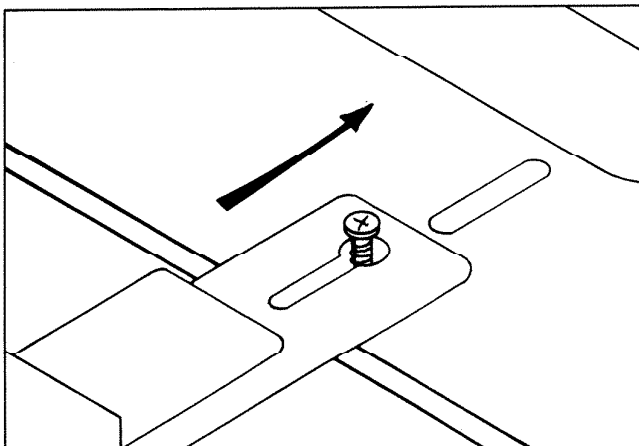

FIGURE 4
4. Attach master panel to rough-in frame by placing keyhole slots in both mounting hinges over screw heads in rough-in frame. See Figure 4.